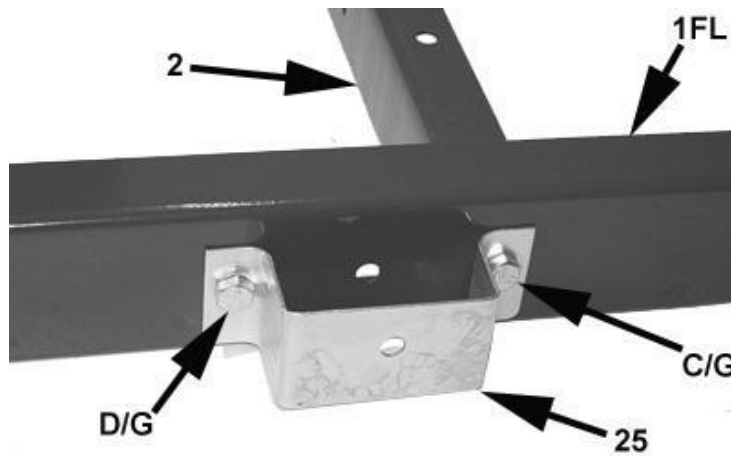

Figure 1-3
3. Position stake pocket (25) and connect the center cross member (2) to left frame rail (1FL) with M10 x 20 bolt (D), M10 x 30 bolt (C) and M10 nylon lock nuts (G). The center cross member goes in the rear of the three holes on left frame rail. See figure 1-3.